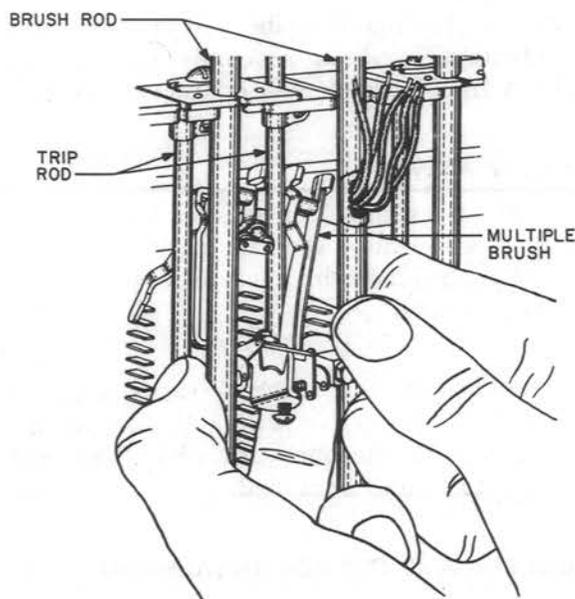

Fig. 11 — Method of Removing Multiple Brush
**3.29** Move the brush up on the rod until the springs are above the bank terminals, and swing it to the left until the brush frame is free of the brush rod. As it will be necessary to bow the brush rod outward slightly to clear the frame, exercise care not to distort or kink the rod. Pull the right-hand springs out to permit the trip rod to pass between the roller and sleeve spring as the clamp end of the brush is tipped downward, as shown in Fig. 11.